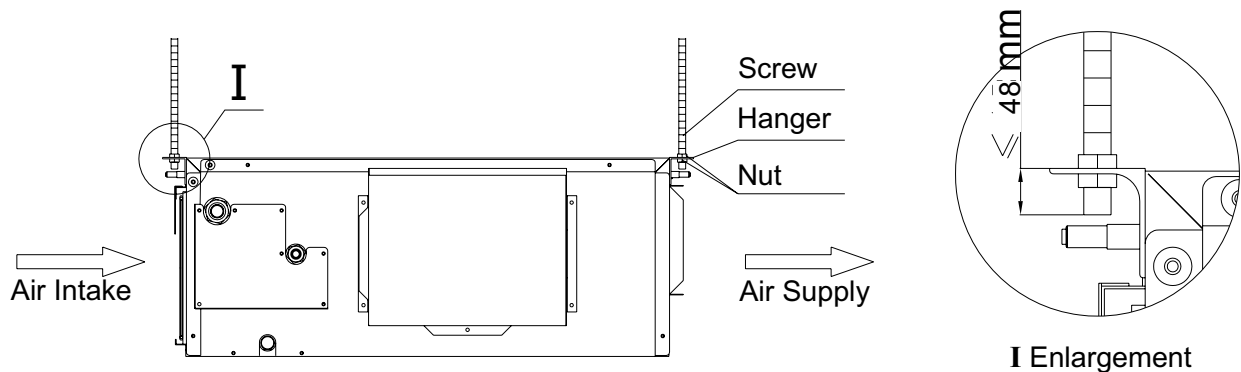

Fig.1.1.5
5) Install the indoor unit at the ceiling as Fig.1.1.5 shows.